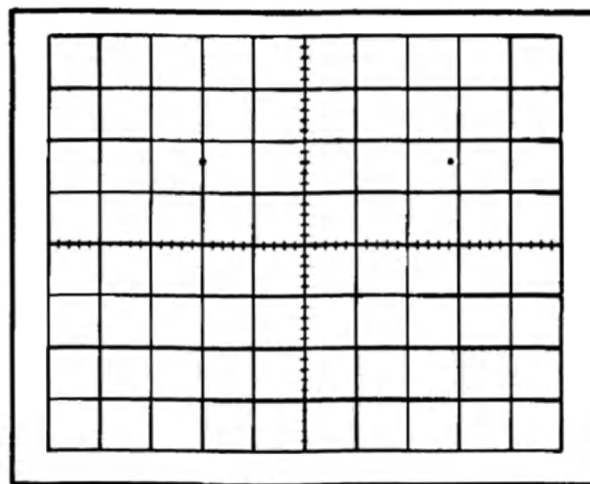

Fig. 5-18. Typical CRT display when checking external horizontal operation.
d. CHECK—CRT display for horizontal deflection between 3.75 and 6.25 divisions (10 volts/division, $\pm 25\%$; see Fig. 5-18).